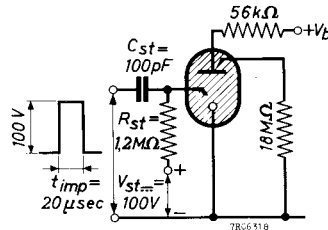

Fig.13a. Recommended circuit with pulse ignition.
2) Circuit Fig.13a.
5. If the Z70U is ignited by pulses of short duration the total starter voltage (bias plus pulse) should exceed 175 V. A recommended value with a 100 pF starter capacitor is 200 V (see Fig.13a).